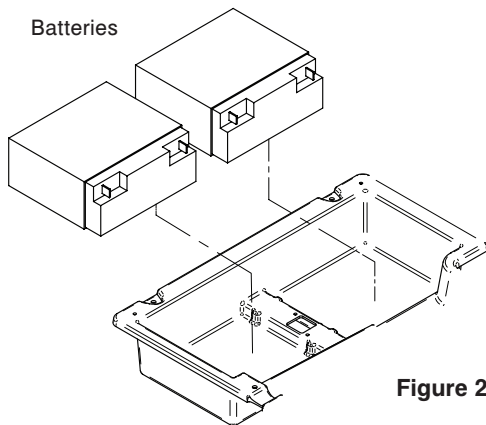
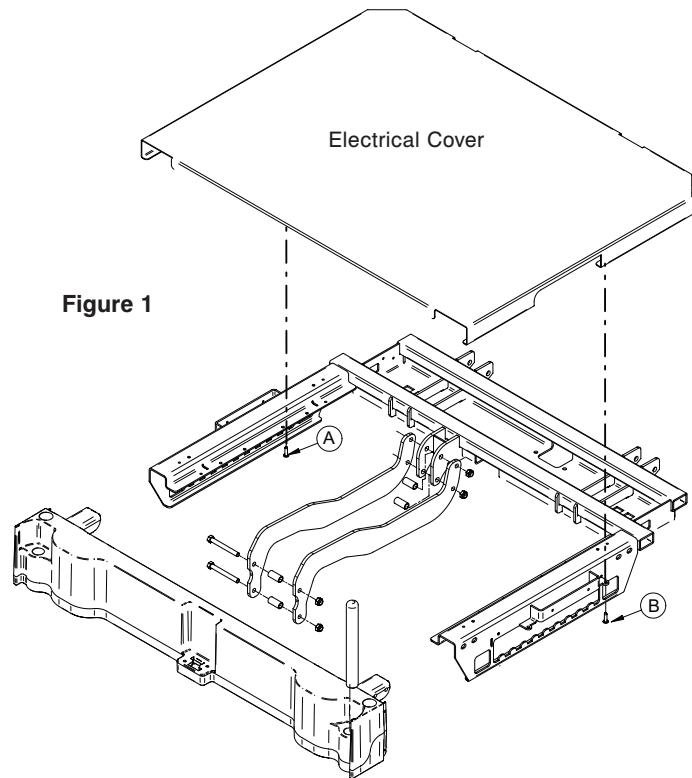

Figure 2
Figure 1
5. Using a Phillips screwdriver, remove the two screws securing the electrical cover and remove the cover (reference Figure 1 above, item A and B).
6. Unplug the bed from the wall outlet and turn battery switch "OFF" (0). The bed should now have no power.
8. Lift up on both batteries and stand them upright (reference Figure 2 above).
4. Using a Phillips screwdriver, remove the two screws securing the electrical cover and then remove the cover (refer to Figure 1 above, item A and B).